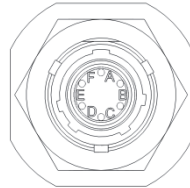

Figure 2 – Radio Interface
2.2 Radio – The radio interface connector is a six pin 71-533722-06P circular waterproof connector that interfaces the handset connector described in paragraph 2.1 to the handset connector on the radio. All signals are bypassed when the speaker is turned OFF. Figure 2 and Table 2 describe the radio interface.